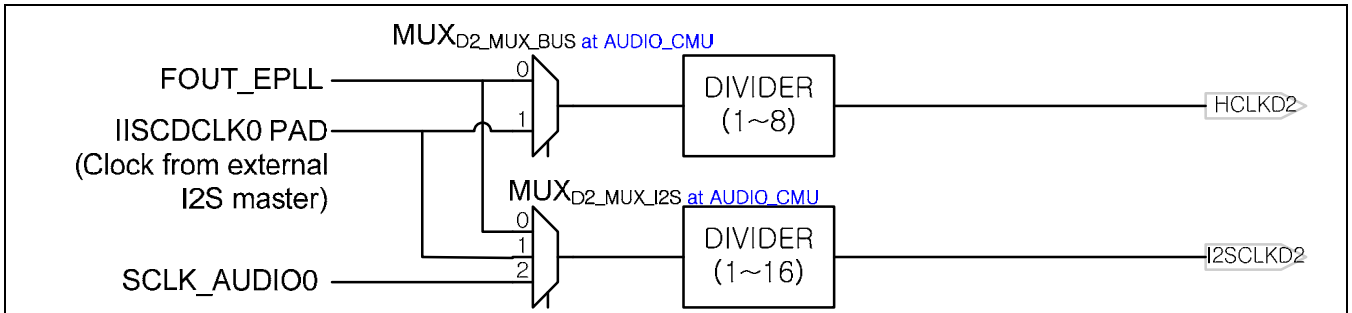
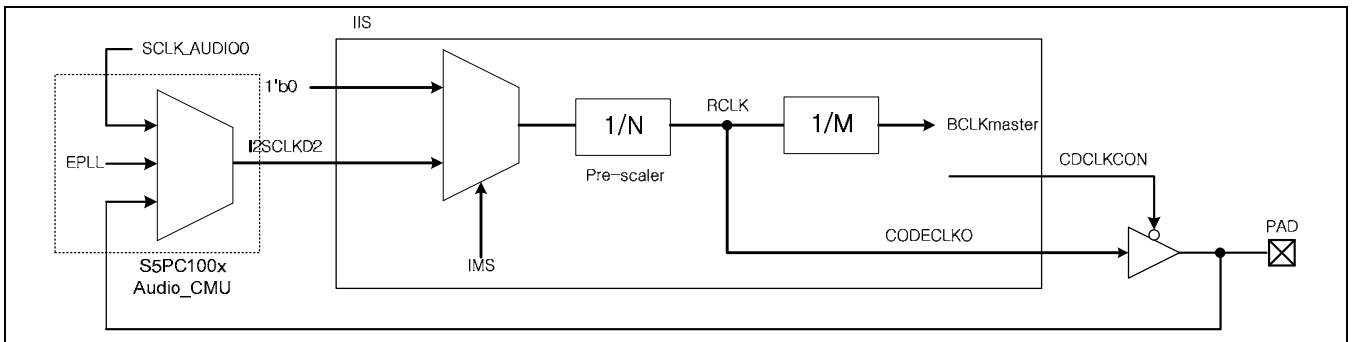

Figure 10.2-2 S5PC100x Audio_CMU
Figure 10.2-3 I2S Clock Control Block Diagram
Figure 10.2-2 & Figure 10.2-3 shows the route of the root clock with internal master or external master mode setting in I2S clock control block and system controller. Note that RCLK indicates root clock and this clock is supplied to external I2S CODEC chip at internal master mode. To configure I2S V5.0 to work properly, refer CLK_GATE_D2_0 in Clock Controller manual.
2. Select clock source. The S5PC100 has three clock sources namely PCLK, EPLL and external codec. For more details refer to Figure 10.2-2 and Figure 10.2-3.